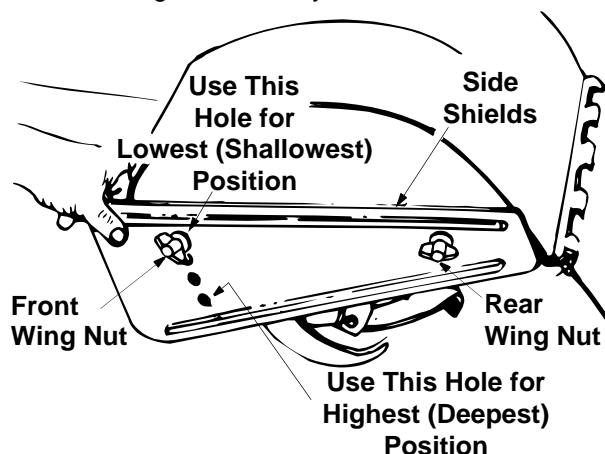

Figure 8
Tilling depth is controlled by the depth stake which can be adjusted to five different settings. See Figure 7. Adjust the side shields as shown in Figure 8, as you adjust the depth stake. Be certain spark plug wire is disconnected and grounded against the engine.
- To adjust the side shields, remove the front wing nut and loosen the rear wing nut. See Figure 8.